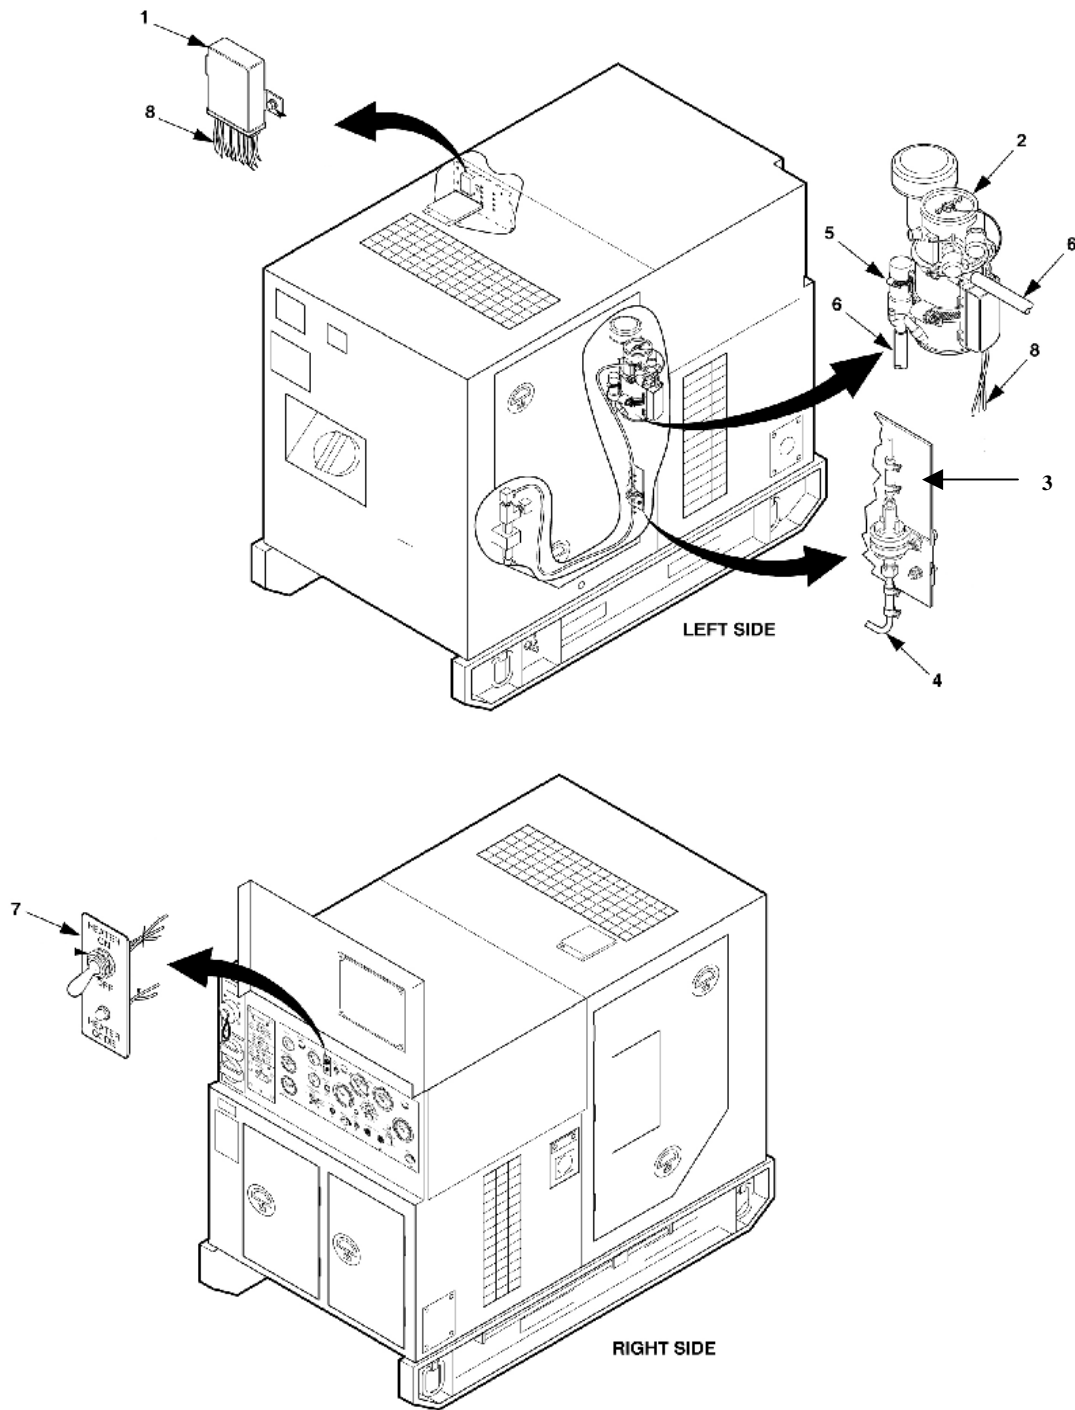

Figure 1-1. Location of Major Components for 5kW (MEP-802A, MEP-812A).
Figure 1-1 illustrates the major components of the kit and shows their locations on the 5kW Tactical Quiet Generator Set. (Refer to table 1-1 for item names).
2-1.1.1 Heater Indicator Light. A light at the heater ON-OFF switch (item 7, figure 1-1) lights when the heater is in operation. The light also serves as a troubleshooting code light (See paragraph 3-1.1).